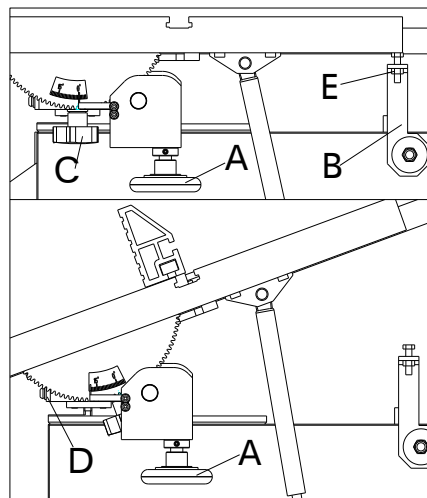

Fig. 15
1. Loosen the workbench handle(C), rotate the bedplate(A), make the Angle pointer to 0° then adjust the zero support (B), so that just in 0° to resist bedplate, then lock nut (E) as shown in figure 15.
2. Loosen the workbench handle(C), rotate the bedplate(A), make the Angle pointer to -20° then lock nut (D) as shown in figure 15.